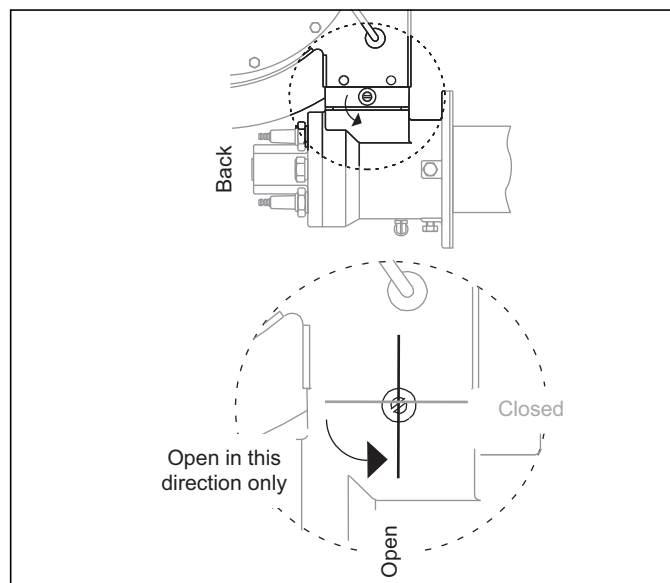

Figure 4.1 Air Butterfly Valve
8. Verify that the actuator opens the air BV towards the back of the burner as shown in Figure 4.1. If it doesn't, refer to the actuator's literature for instructions on how to reverse the direction.